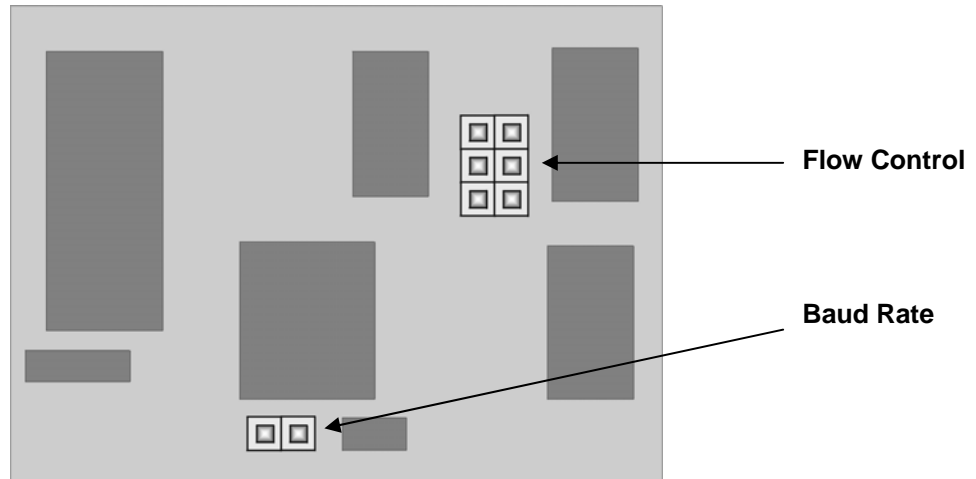

Figure 10 Position of Baud Rate and Flow Control jumper blocks on Serial Daughter Board
2. Lift off the top cover. There are six serial daughter boards for each port in the Local Hub. Locate the *Baud* jumper posts on the appropriate serial daughter board (see Figure 10).
The circuit board has several jumper blocks in addition to those shown in Figure 10. Do not adjust any of these settings, as you will cause the extender system to operate incorrectly.
The serial daughterboards in both Local Hub and Remote Units have a series of jumpers that allow the selection of alternative hardware flow control schemes across the CATx link (see Figure 10). Most applications will not require hardware flow control across the link, and therefore the flow control jumpers are set to loopback by default and should not need adjustment.